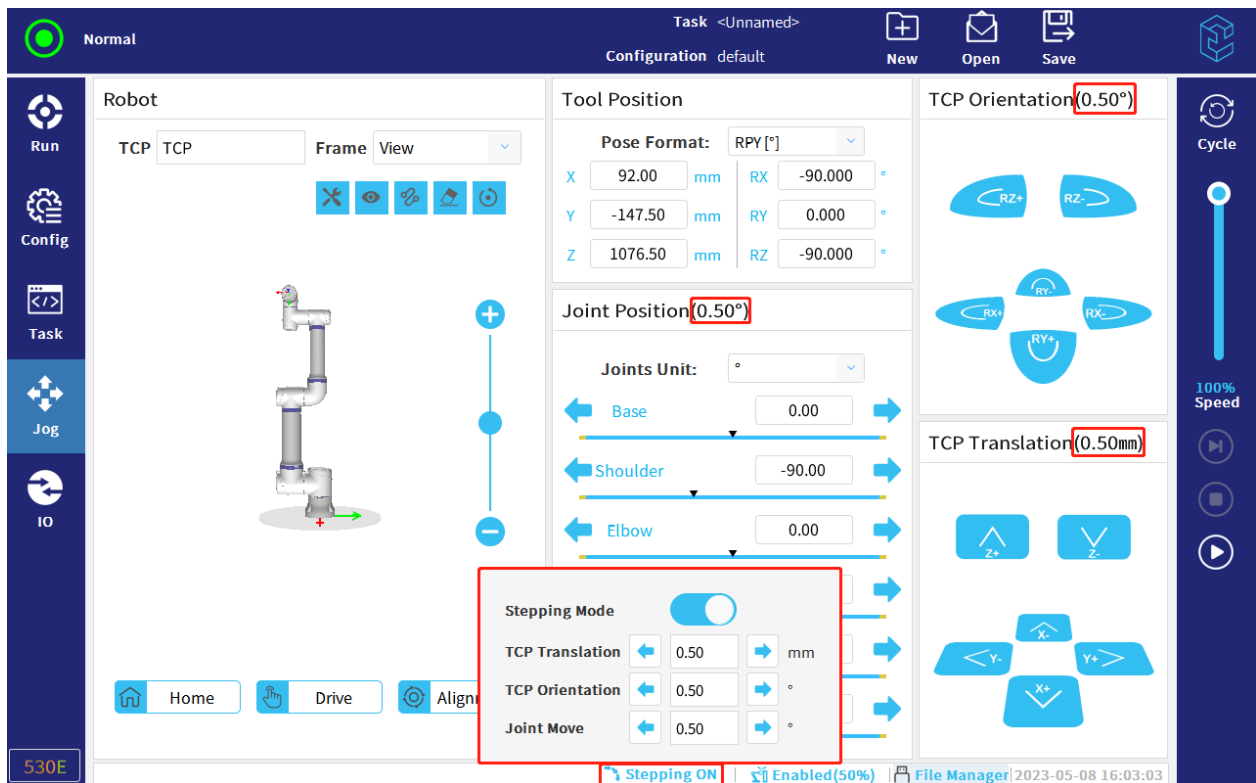

Figure 14-2 Stepping mode
- Click the "Stepping" icon in the bottom of the menu to switch on or off the stepping mode, as shown in Figure 14-2.